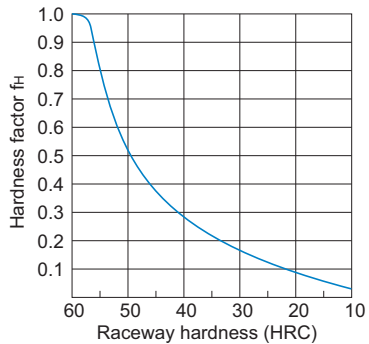

Fig.2 Hardness Factor (f_H)
- C : Basic dynamic load rating (N)
- P_C : Calculated radial load (N)
- f_H : Hardness factor (see Fig.2 on **A5-6**)